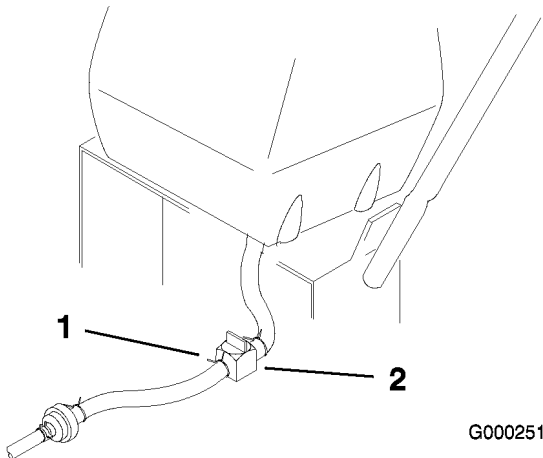

Figure 38
2. Close the fuel shut-off valve at the fuel tank (Figure 38).
3. Squeeze the ends of the hose clamp together and slide it up the fuel line away from fuel filter (Figure 38).
4. Pull the fuel line off the fuel filter (Figure 38). Open the fuel shut-off valve and allow the gasoline to drain into a gas can or drain pan.
3. Close fuel shut-off valve at fuel tank (Figure 38).
7. Open fuel shut-off valve at fuel tank (Figure 38).